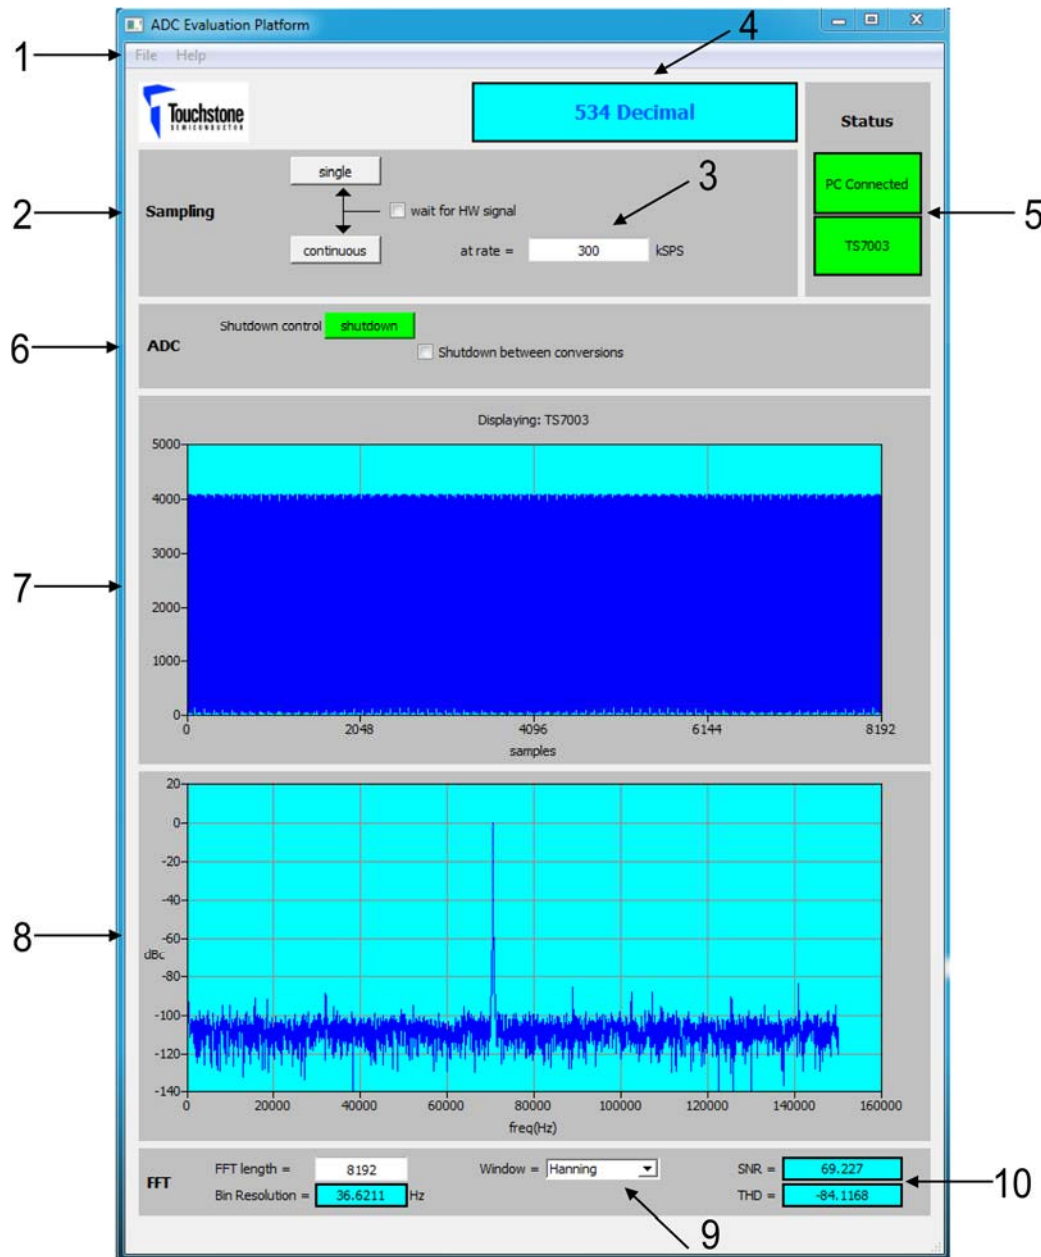

Figure 5. Evaluation Platform GUI Features
Depending on the ADC to be evaluated, the ADC section of the GUI labeled as number 6 in Figure 5 will change. Please refer to the ADC demo board manual for more information. Table 1 shows the ADCs currently available for evaluation.
The following outlines the various features available in the ADC evaluation platform GUI. Please refer to Figure 5 and note that each section of the GUI is labeled with a number from 1 to 10 corresponding to the following:
5. If the Nano River Tech Viperboard and the ADC demo board have been connected correctly to the PC according to the instructions in the ADC demo board manual, the status boxes will be highlighted in green and will read "PC Connected" along with the part number of the ADC to be tested. If the ViperBoard or the ADC demo board is not connected, the boxes will be highlighted in red. In figure 5, the TS7003 is being evaluated.
6. Depending on the ADC being evaluated, this section will change. In figure 5, the TS7003 is being evaluated. Since the TS7003 offers a shutdown pin, this section provides a button that can be selected to exercise this function. Please refer to the ADC demo board manual for more information.